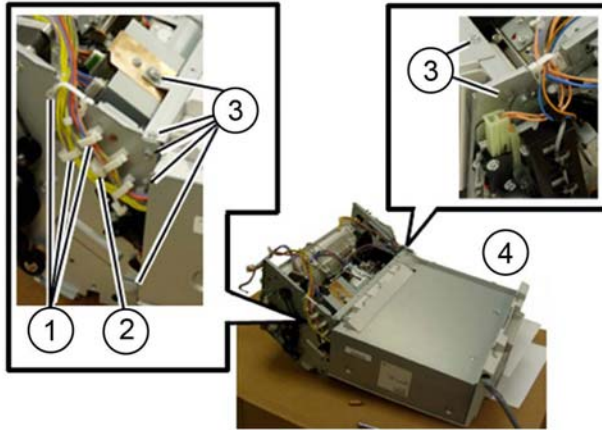

Figure 3 Stacker tray removal
8. Remove the stacker tray, **Figure 3**:
- a. Release the harness from the five clamps (1).
- b. Disconnect the connector (2).
- c. Remove seven screws (3).
- d. Remove the stacker tray (4).